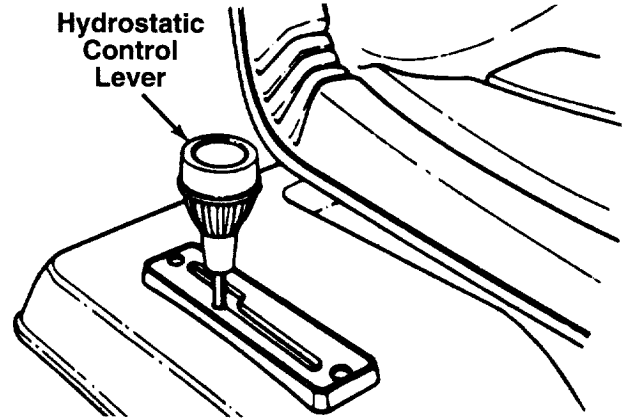

FIGURE 8.
The hydrostatic control lever is located on top of the fender on the right side of the tractor. This single control lever, connected to the hydrostatic transmission, controls both the speed and direction of the tractor. Infinite speed control is achieved by moving the control lever forward or backward. The farther forward or backward you move the control lever, the faster you will travel. Pulling the control lever into neutral (N) area will stop the tractor. See figure 8.